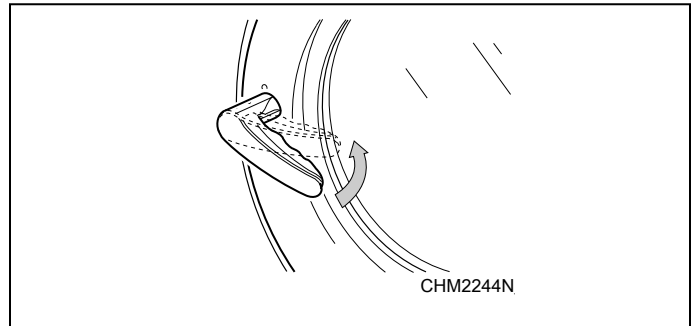

Figure 55
4. Close the door and turn handle counter clockwise. Refer to *Figure 55*.